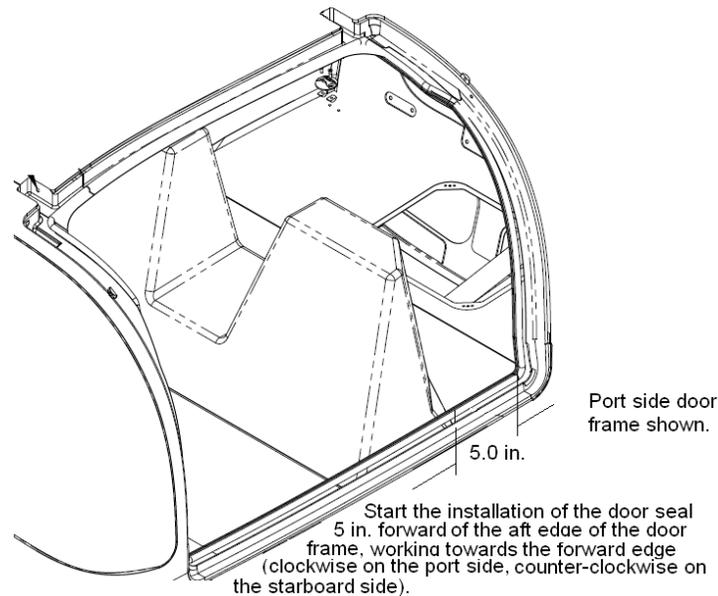

Figure 52-6 Location of the Starting Point to Install the Door Seal
3. Install the one-piece door seal starting at the bottom, 5 inches forward of the aft doorframe. Work in a clockwise direction, all around the frame, ending at the same point. See Figure 52-6 for details.